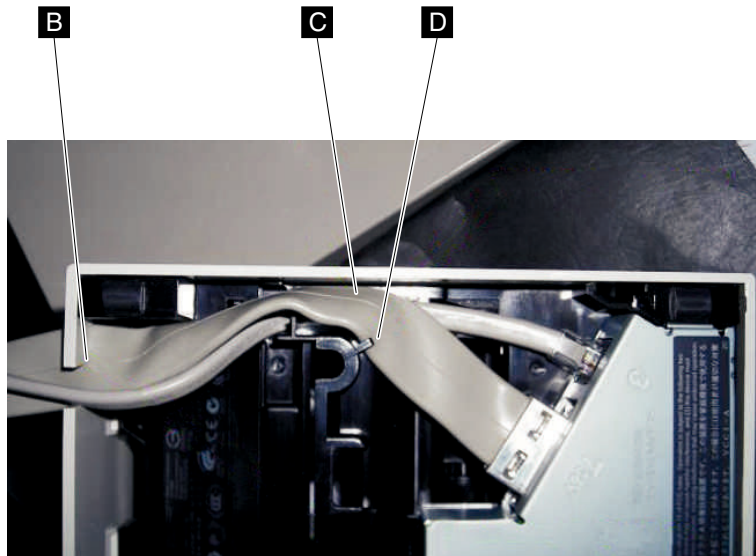

Figure 13. RS-485 cable routing
2. Route the RS-485 cable (see Figure 13).